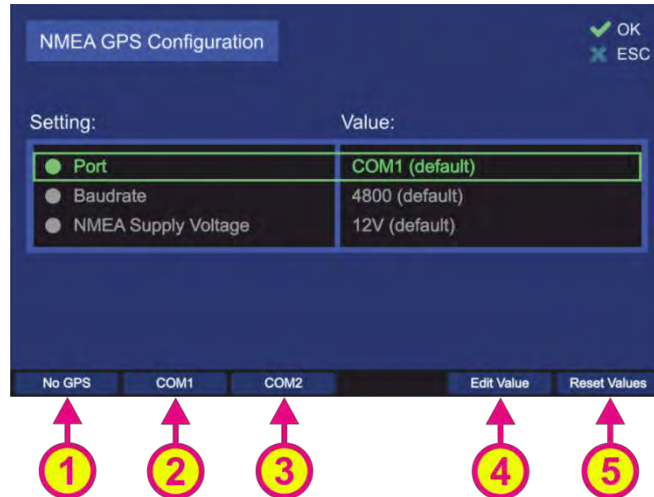
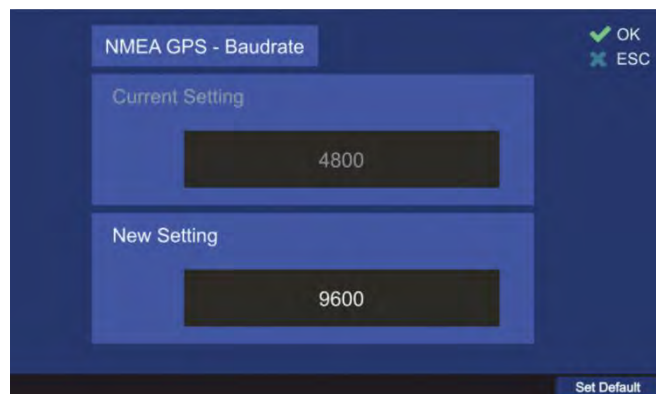

Figure 120. NMEA GPS configuration settings
Figure 122. Changing the NMEA GPS baud rate setting
Following sub-menu will appear (s. Figure 120).
- o Pressing the hotkey “Reset Values” (s. Figure 120, position 5) will set all menu items to default values.
- o To change the baud rate, press the hotkey “Edit Value” while the menu item “Baudrate” is marked (s. Figure 120). The corresponding sub-dialog will be opened (s. Figure 122).